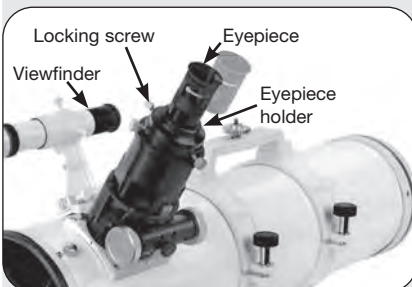

Fig. 10: Insert the eyepiece and tighten the screws.
10. Inserting the eyepiece (Fig. 10): First remove the dust cap from the eyepiece holder on the focusing unit. Place the dust cap in a safe place and replace it when you have finished observing to prevent dirt from entering the telescope. Open the eyepiece clamping screws (1, Fig. 1a) and insert the supplied eyepiece (3, Fig.1a) into the eyepiece holder. Then hand-tighten the screws to prevent the eyepiece from slipping out.